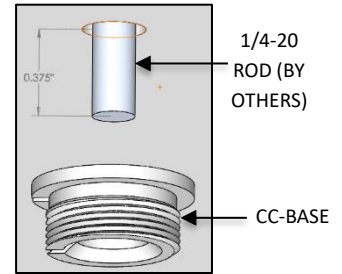

FIG. 20 - GRID CEILING
- Add a light thread locking compound to the 1/4-20 ROD (by others). Then thread CC-BASE to 1/4-20 ROD protruding through the ceiling material as shown in FIG. 20.